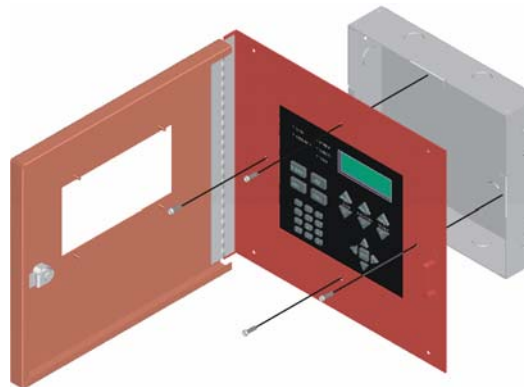

Figure 4 Attaching the Annunciator/Door Assembly to the Backbox
5. Use the supplied screws to attach and secure the annunciator/door assembly to the backbox as shown in Figure 4.